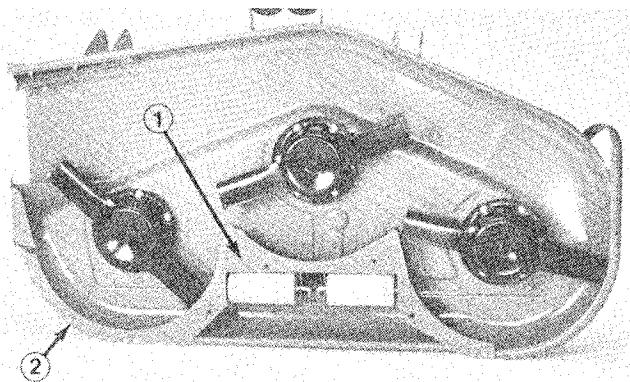

Figure 7
- 7. Position center ring baffle on deck as shown (Fig. 7). Using a long thin pencil or punch, mark (4) middle mounting holes in deck. (Holes may already be in deck)
- 8. Drill (4) 13/32" dia. holes in deck, if required.
- 9. Mount center baffle to deck with (4) 3/8-16 x 1" capscrews and lock nuts (Fig. 7).
- 10. Using center baffle as a template, drill (2) 9/32" dia. holes thru curve edge of deck (Fig. 7). Secure baffle to edge of deck with (2) 1/4-20 x 3/4" capscrews and lock nuts.
- 11. Align right ring baffle with end of center baffle and edge of deck (Fig. 7). Mark and drill (2) 9/32" dia. holes thru curve edge of deck (Fig. 7). Secure right baffle to edge of deck with (2) 1/4-20 x 3/4" capscrews and lock nuts.